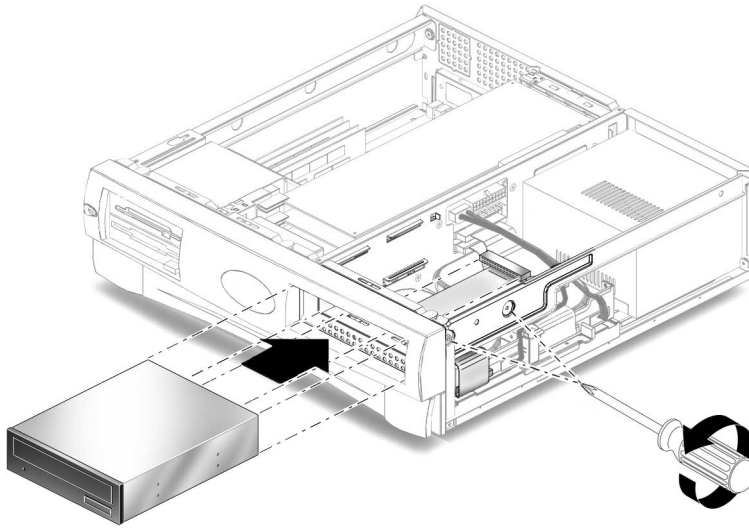

FIGURE 8 Removing and Replacing a CD-ROM or DVD-ROM Drive
3. Remove the following from the back of the CD-ROM or DVD-ROM drive (FIGURE 8):
1. Position the CD-ROM or DVD-ROM drive in the chassis (FIGURE 8).